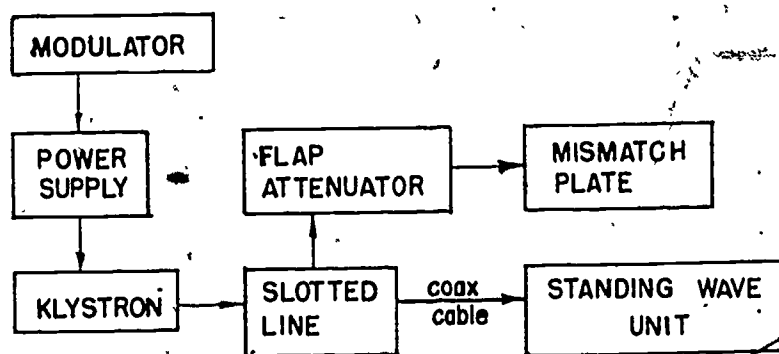

Fig. 2--vswr Attenuation Measurements
1. Connect microwave components as shown in Fig. 2, terminating the setup with the half-shorting plate.